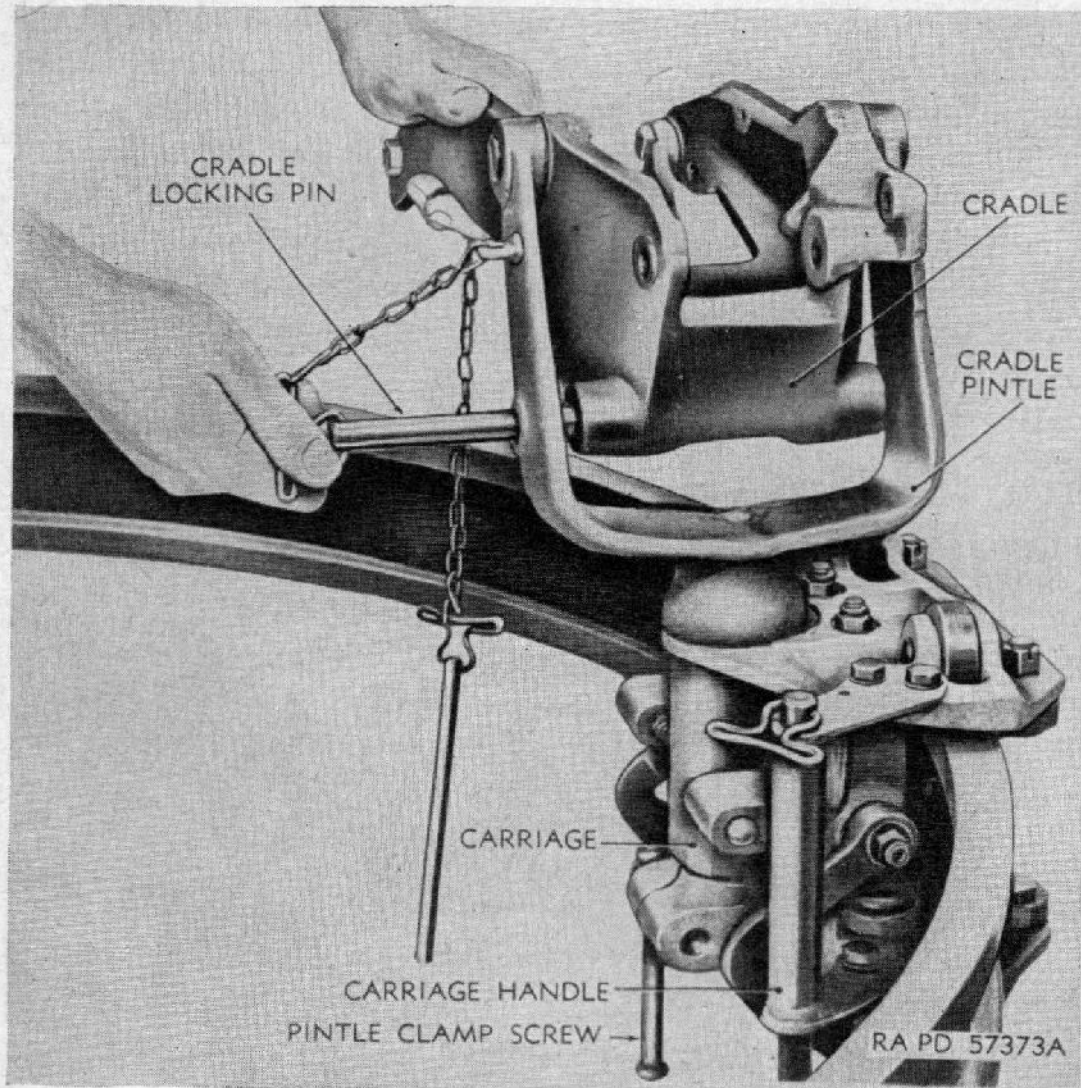

Figure 172. Locking the cradle in a horizontal position.
- the cradle pintle and cradle aline. Insert the cradle locking pin and lock the cradle in a horizontal position (fig. 172).